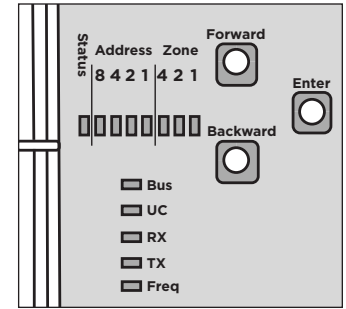

Figure 4: Learn In LEDs and Buttons
- d. Connect the black wire to the **GND(B)** terminal while pressing the Enter button. See Figure 4. This clears the 738T's memory and prepares it for programming.
Before you learn the system's existing wireless transmitters into the 738T, determine what frequency they are using by identifying the panel's manufacturer. (319.5 MHz Interlogix or 345 MHz Honeywell 5800 and 2GIG) The 738T allows you to easily switch between 319.5 MHz and 345 MHz by pressing the **Enter** button on the PCB. Use the **Freq** LED to determine which frequency is currently selected. See Figure 4 for the button and LED locations.
1. Get the 738T ready to learn in transmitters by pressing the **Forward** and **Backward** buttons at the same time. See Figure 4. The **Address** LEDs will light up, displaying an address. Addresses 1-15 are available. The default is address 5.